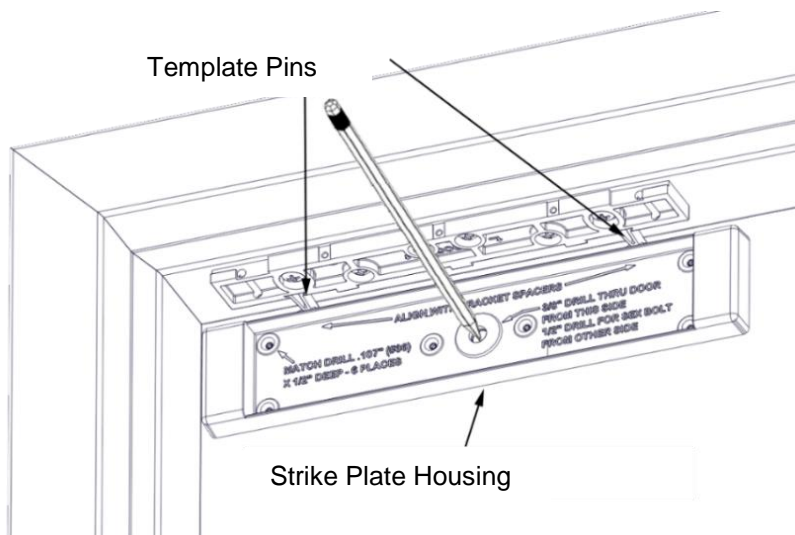

Figure 19. Marking the Strike Plate Hole Locations
6. MARK the strike plate housing hole locations (see Figure 19, “Marking the Strike Plate Hole Locations”).